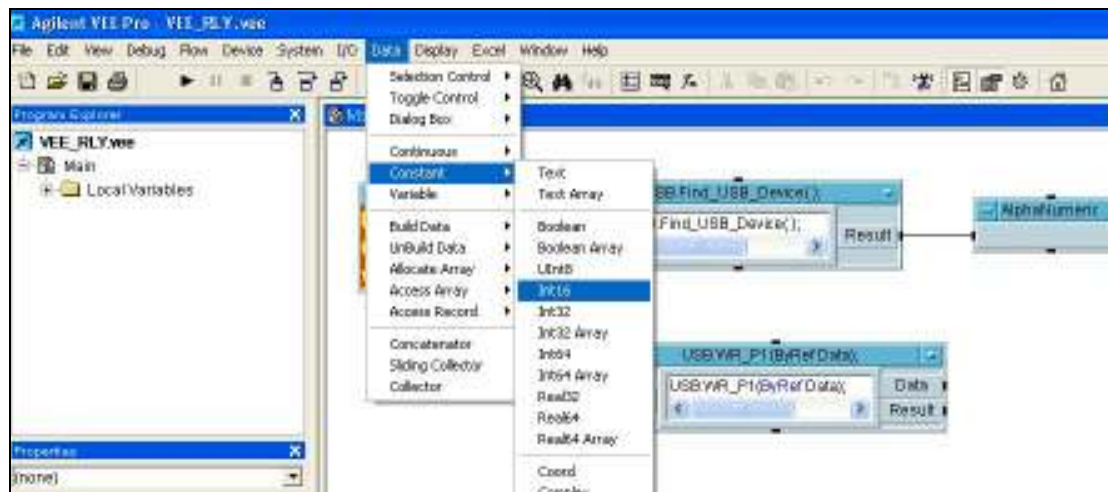

Figure 9.
11. From "Data" in the pull-down menu, select "Constant" and then "Int16". See Figure 9 below.